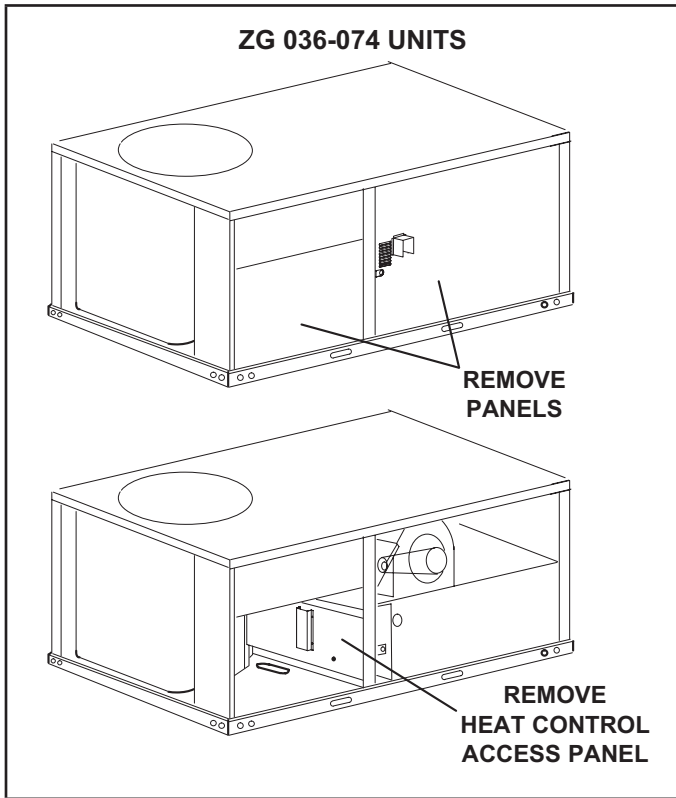

Figure 1
- 2 - Open access panels as shown in figure 1. On LG/LD/KG/SG units, remove the mullion between the heat and compressors sections.